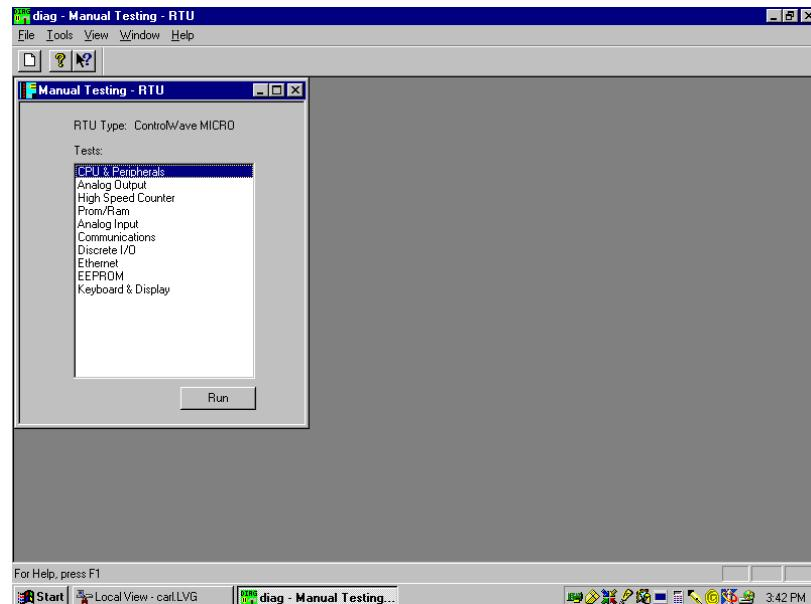

Figure 5-20. WINDIAG Main Diagnostics Menu
2. Select **Start >Programs > OpenBSI Tools >Common Tools > Diagnostics**. The Main Diagnostics menu (*Figure 5-20*) displays.
Using WINDIAG, you can test all ControlWave modules with the exception of the PSSM. WINDIAG's Main Diagnostics Menu (see *Figure 5-20*) provides the following diagnostic selections: